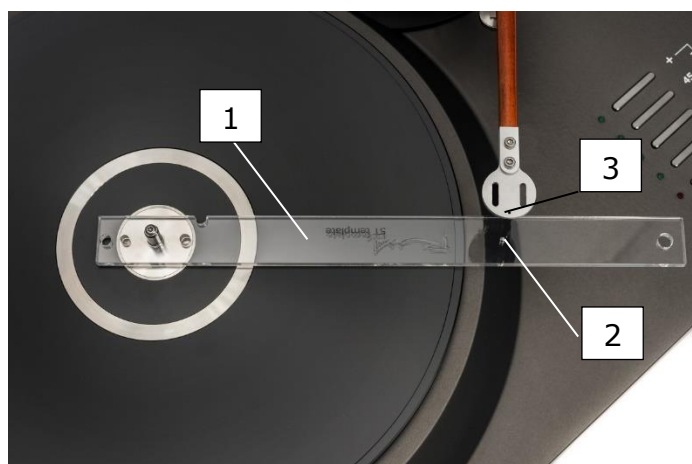

Figure 13
- m) Check tonearm setup using Reed 5T template ruler [1] (Figure 13). Template's hole [2] should be aligned with hole in the headshell [3]; max. allowed deviation is  $\pm 1\text{mm}$ . If deviation is bigger, please check your setup according to steps 2-f, 2-g, and 2-j of this manual.